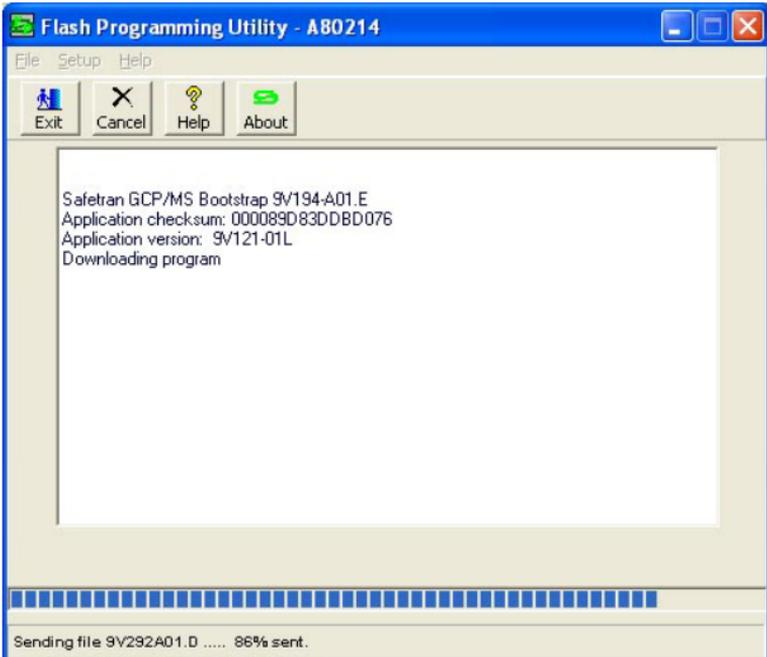

Figure 5:
6. When the status bar on the bottom of the interface indicates that it has started to send a file, release the **SETUP** key (see Figure 5).